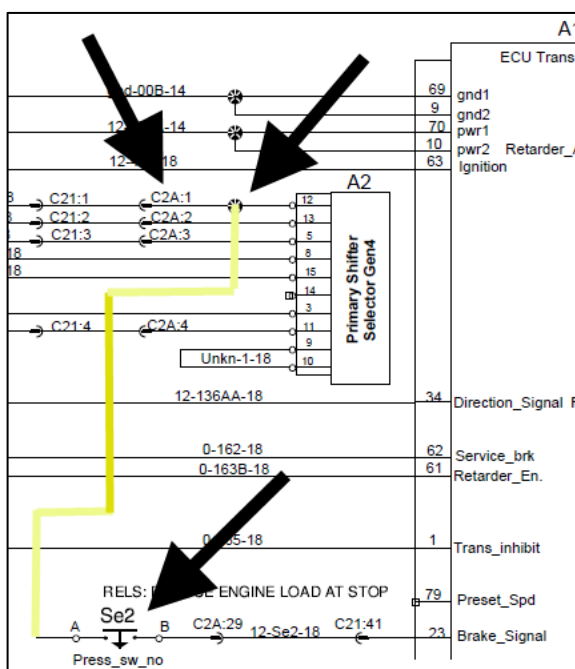

Figure 14
19. Use wire #562593 and cut a length of 8-12 inches depending on the harness layout to run from existing yellow wire C2A (pin #1) up to the new pressure switch connector pin A (Figure 14).